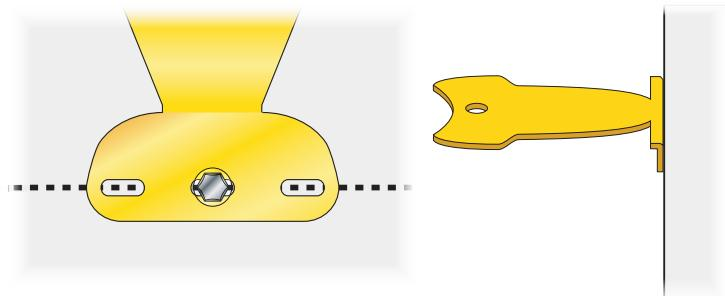

FIG. 10
- 10 Fasten the Rear Support Brace (G13) to the wall using your own suitable hardware [FIG. 10]. Refer to the previously marked line for the suitable mounting location of this Brace.